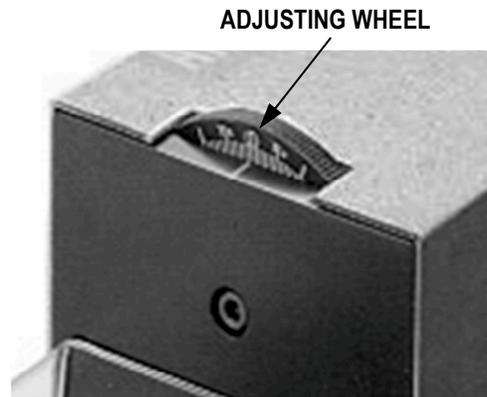

Figure 2-3
1. **Cable / Wire diameter** (See Figure 2-3)